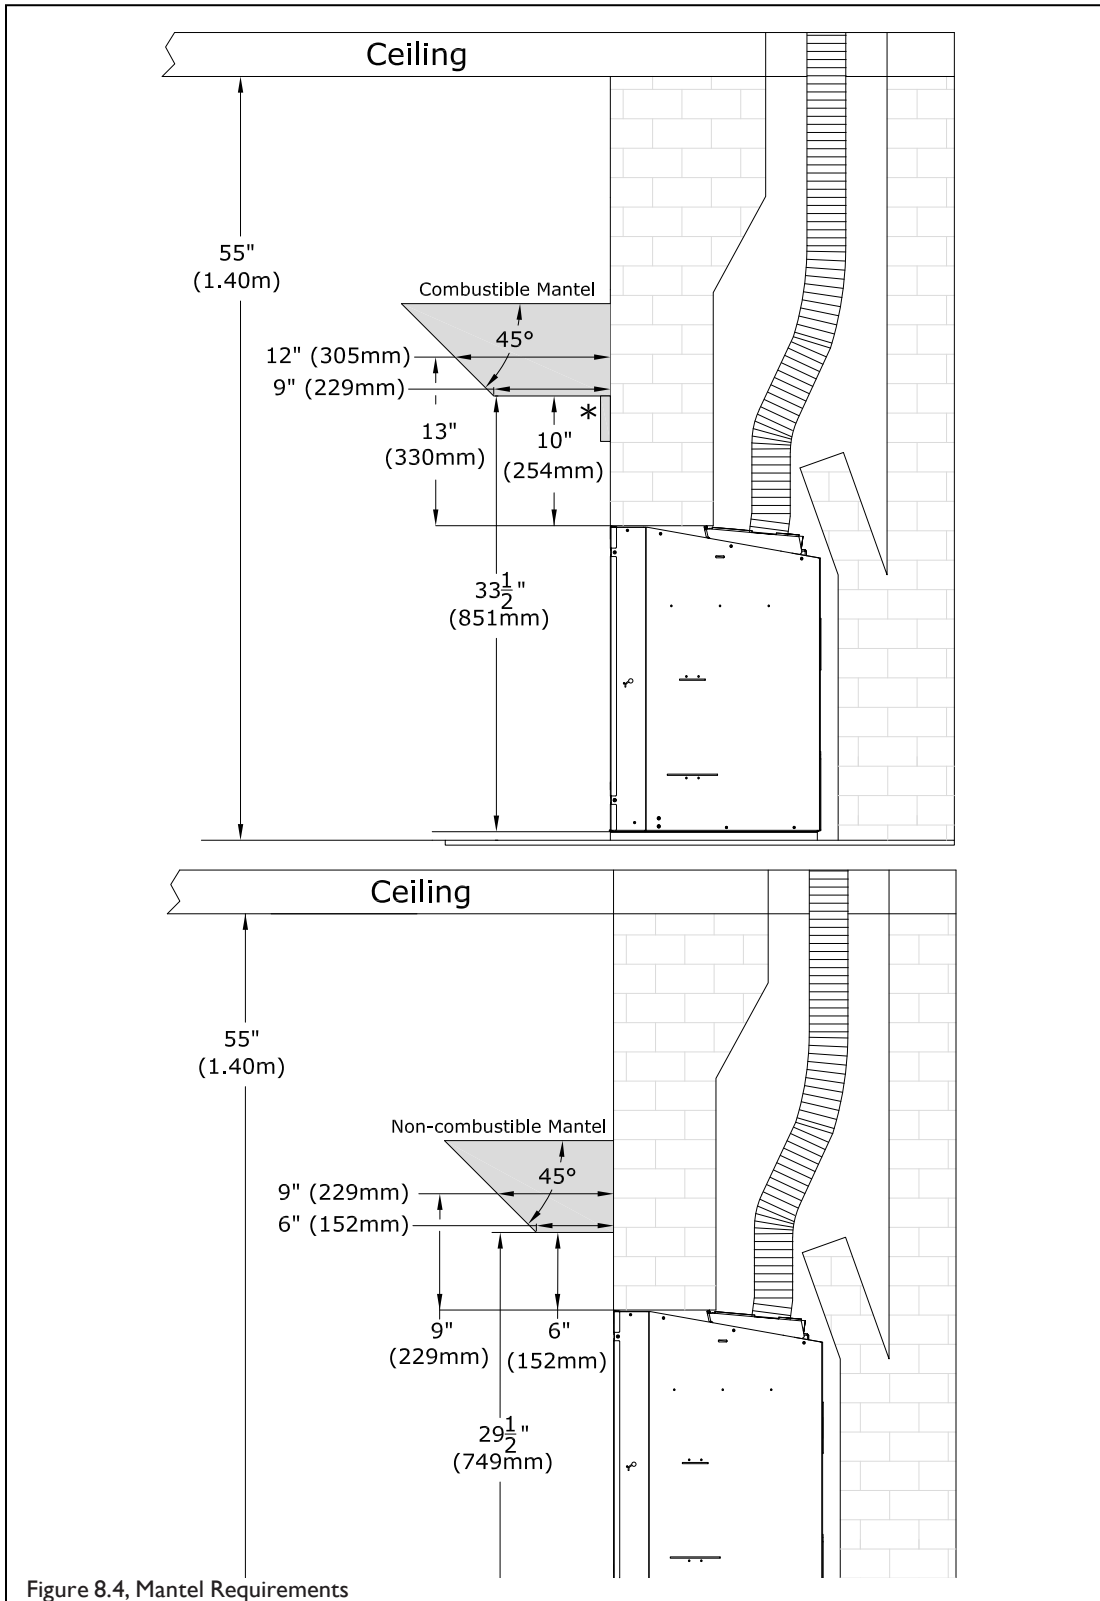

Figure 8.4, Mantel Requirements
- Combustible Mantel Projections: As referenced in Figure 8.4 (page 26) the optional 3/4" (19mm) trim can start at 6-1/2" (165mm) above the top of the appliance with a 9" (229mm) mantel starting at 10" (254mm) above the top of the appliance. Mantel projections can increase 1" (25mm) of depth for every 1" (25mm) of height starting at the 6" (152mm) mantel.
- Non-combustible Mantel Projections: As referenced in Figure 8.4 (page 26). A minimum vertical clearance of 6" (152mm) above the appliance to a maximum 6" (152mm) depth of a non-combustible mantel. Follow projection 1" (25mm) up for every 1" (25mm) deeper.